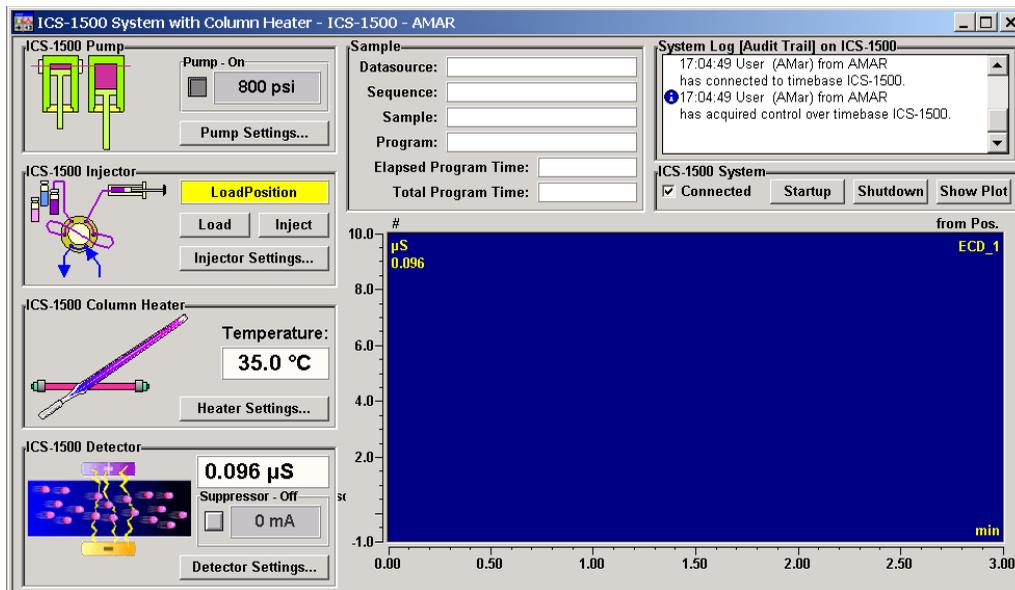

Figure B-33. ICS-1500 System Control Panel Example
19. Double-click the .pan file to open the Control Panel for your system (see the example in Figure B-33).